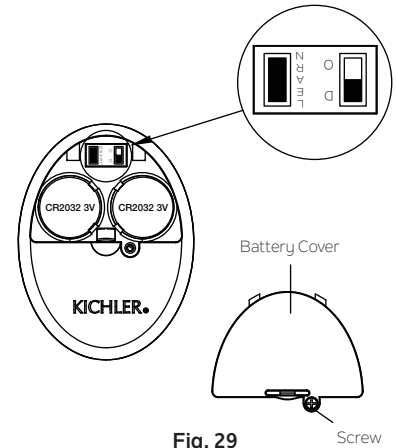

Fig. 29
Otherwise the remote control will not work. To perform this process manually, follow steps below: After installing and wiring the unit, restore power to your fan, press and hold the LEARN key for 1-3 seconds, the fan will turn on at medium speed and light (if installed) will turn on. This confirms that the learning process have been completed. This operation must be completed within 30 seconds after restoring power to the fan. (Fig. 29)
**NOTE:** Ensure slide switch in battery compartment marked “D O” is set to “D” position. (Fig. 29)
**Step 4.** Replace the battery cover and tighten with screwdriver. (Fig. 29)